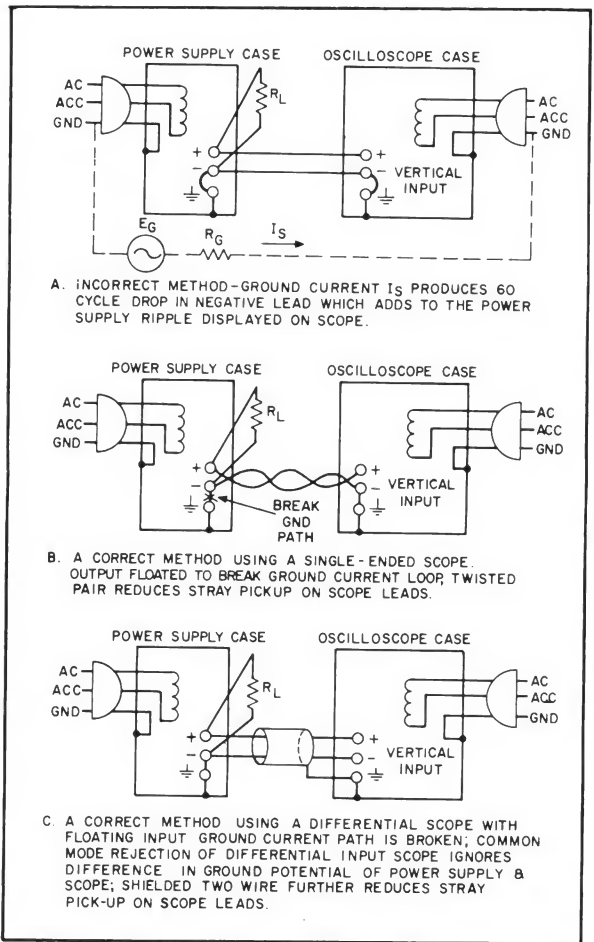

Figure 5-3. Ripple and Noise, Test Setup
- a. Connect test setup as shown in Figure 5-3.
5-22 **Ripple and Noise Measurement.** Figure 5-3 shows an incorrect method of measuring p-p ripple. Note that a continuous ground loop exists from the third wire of the input power cord of the supply to the third wire of the input power cord of the oscilloscope via the grounded power supply case, the wire between the negative output terminal of the power supply and the vertical input of the scope, and the grounded scope case. Any ground current circulating in this loop as a result of the difference in potential E_G between the two ground points causes an IR drop which is in series with the scope input. This IR drop, normally having a 60 Hz line frequency fundamental, plus any pickup on the unshielded leads interconnecting the power supply and scope, appears on the face of the CRT. The magnitude of this resulting noise signal can easily be much greater than the true ripple developed between the plus and minus output terminals of the power supply, and can completely invalidate the measurement.
5-23 The same ground current and pickup problems can exist if an RMS voltmeter is substituted in place of the oscilloscope in Figure 5-3. However, the oscilloscope display, unlike the true RMS meter reading, tells the observer immediately whether the fundamental period of the signal displayed is 8.3 milliseconds (1/120 Hz) or 16, 7 milliseconds (1/60 Hz). Since the fundamental ripple frequency present on the output of an HP supply is 120 Hz (due to full-wave rectification), an oscilloscope display showing a 120 Hz fundamental component is indicative of a "clean" measurement setup, while the presence of a 60 Hz fundamental usually means that an improved setup will result in a more accurate (and lower) value of measure ripple.
5-24 Figure 5-3 shows a correct method of measuring the output ripple of a constant voltage power supply using a single-ended scope. The ground loop path is broken by floating the power supply. Note that to ensure that no potential difference exists between the supply and the oscilloscope it is recommended that whenever possible they both be plugged into the same ac power buss. If the grounds must be at earth ground potential.
5-27 In most cases, the single-ended scope method of Figure 5-3 will be adequate to eliminate non-real components of ripple and noise so that a satisfactory measurement may be obtained. However, in more stubborn cases it may be necessary to use a differential scope with floating input as shown in Figure 5-3C. If desired, two single conductor shielded cables may be substituted in